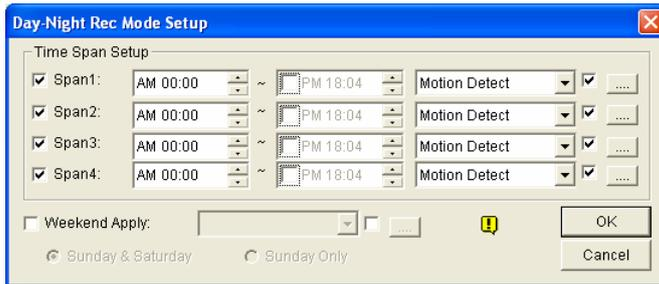

Figure 1-14
- ☉ **Right-Arrow button:** Click to bring up the Day-Night Recording Mode setup dialog box (Figure 1-14).